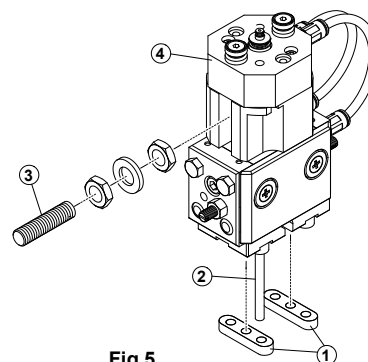

Fig 5
**Adjustment of part scanning in case of PG 505, fig 5 + 6.**
1. Fit gripper jaws specific to certain parts by means of adaptor plates (1) and clamp part.
2. Shorten scanning pin (2) according to part being gripped, so that the sensor is activated in the working position.
**Adjustment of sensor part scanning in case of PG 505, fig 5**
1. An M8×1 sensor (3) with 2 nuts is to be used for scanning.
2. Disassemble connector body (4).
5. Fit connector body (4).